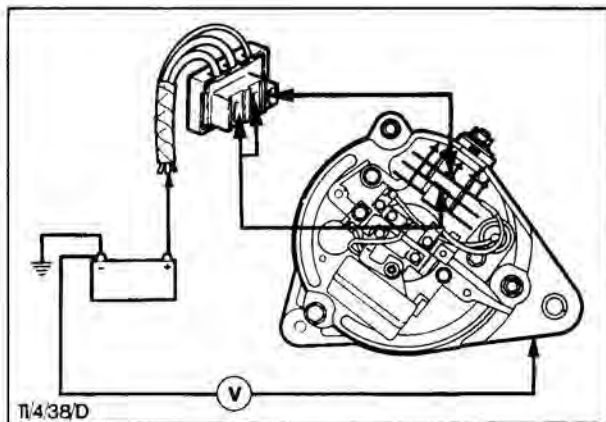

Fig. 36. Checking charging circuit volt drop 'negative side'
13. Connect 'negative side' volt drop test circuit, Fig. 36.